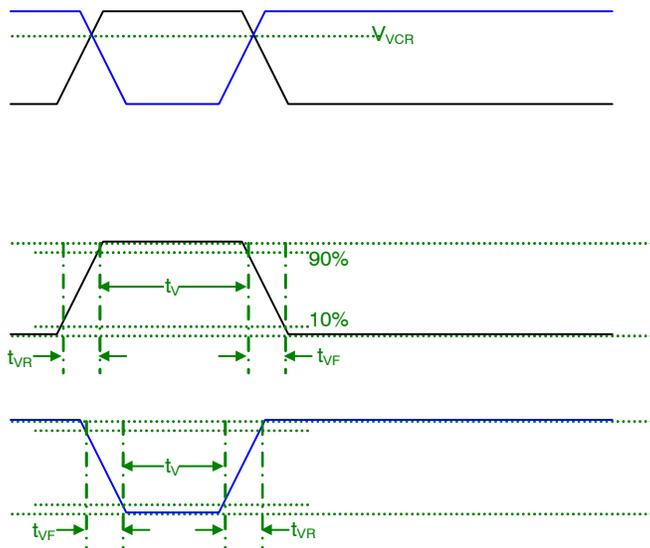

Figure 22. VCCD Clock Edge Alignment
2. Refer to Figure 22: VCCD Clock Edge Alignment